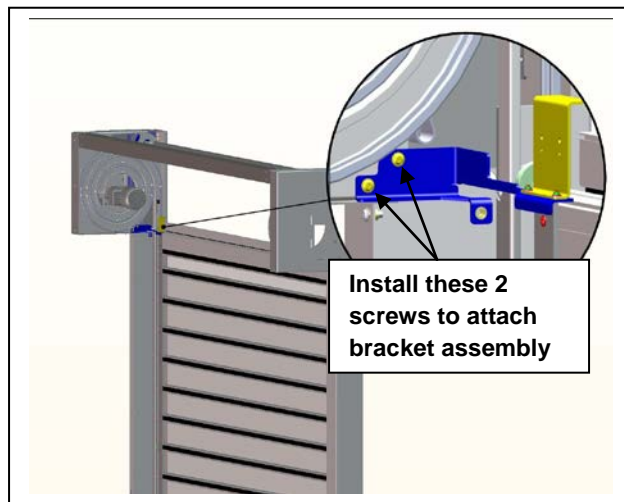

Figure 47
2. Attach the assembled bracket to head assembly with 2 of the M8 1.25x20MM, T40 screws. (See Figure 47.)